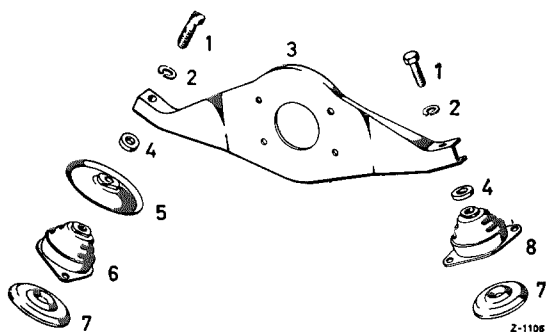

Fig. 22-1/1
On Models 180 D and 180 Db the right rubber mounting (6) is covered by a screening plate (5) in order to prevent damage to the rubber mounting if diesel oil should leak out of the fuel main filter or the injection pump (Fig. 22-1/2).
For the same reason the left rubber mounting (10) on Models 190 D and 190 Db is protected by bellows (9) and a sheet-metal cover (8) (Fig. 22-1/2).